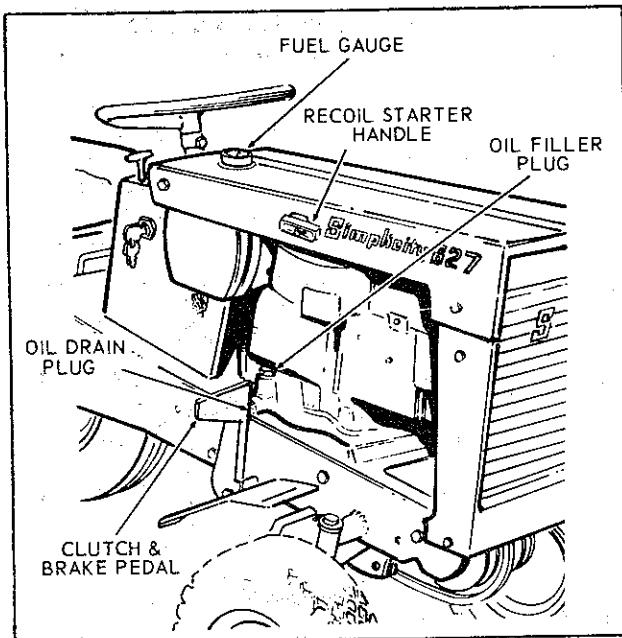
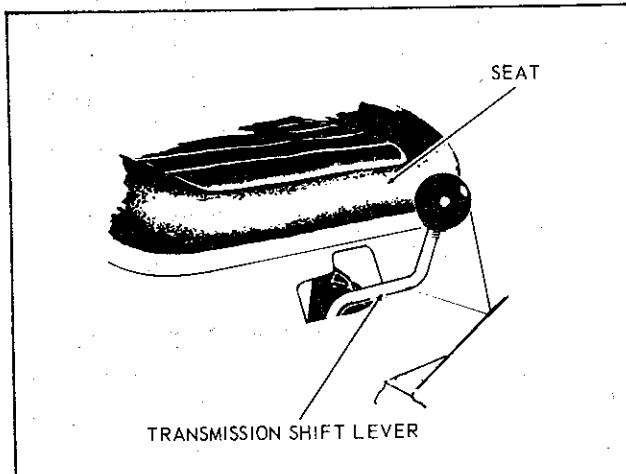

Figure 2
Figure 3
Operation of clutch and brake is regulated by clutch & brake pedal shown in Figure 2.
2. Depress the clutch pedal Figure 2 with the right foot.
4. Grasp the handle of the recoil starter Fig. 2 with the right hand and pull sharply toward you. If engine starts on first pull slowly move the choke and throttle lever to the "Run" position as the engine warms up. Should the engine fail to start on the first or second pull, move the choke and throttle lever to the "Run" position to avoid flooding the engine with fuel. When re-starting a warm engine, it should not be necessary to use the choke.
Travel direction of the tractor is regulated by the position of the transmission shift lever, Figure 3. Merely depress the clutch pedal, Figure 2 with the right foot, and with the heel of your hand, move the shift lever into the desired 1st, 2nd, 3rd or reverse position. Slowly release the clutch lever and move off, regulating speed of travel by the position of the throttle lever.